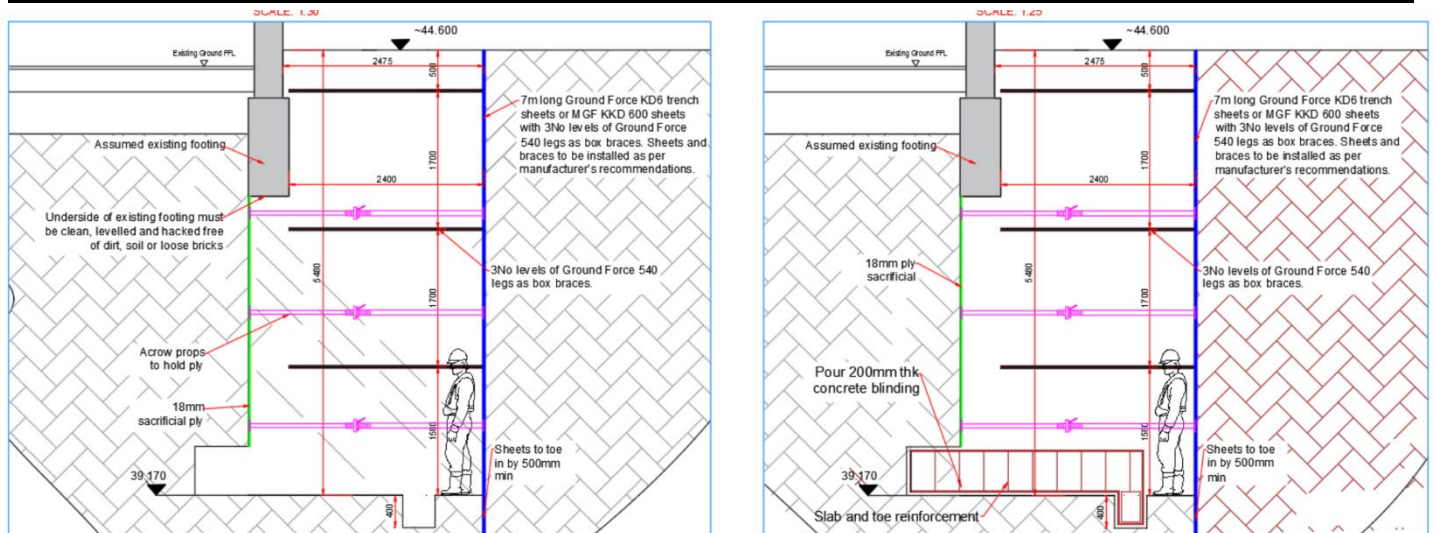

Figure 3 Installation of excavation support (LHS) and formwork for concrete pour (RHS)
5. Install the braces/walers for the excavation support as the excavation progressed to the formation level (Fig 3).
6. Also install the 18mm and the Acrow props to support the ply as required (Fig 3).